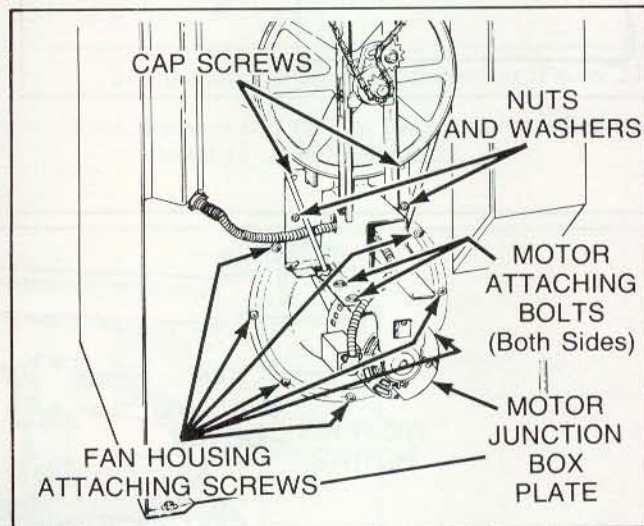

Figure 21
- f. Remove the seven fan housing attaching screws, *Figure 21*.
- g. Remove the two cap screws, nuts and washers, holding motor bracket to rear of tumbler cabinet, *Figure 21*.
- h. Remove plate from motor junction box and disconnect wires from motor, *Figure 21*.
- k. Remove four nuts, washers and bolts holding mounting bracket to motor, *Figure 21*.